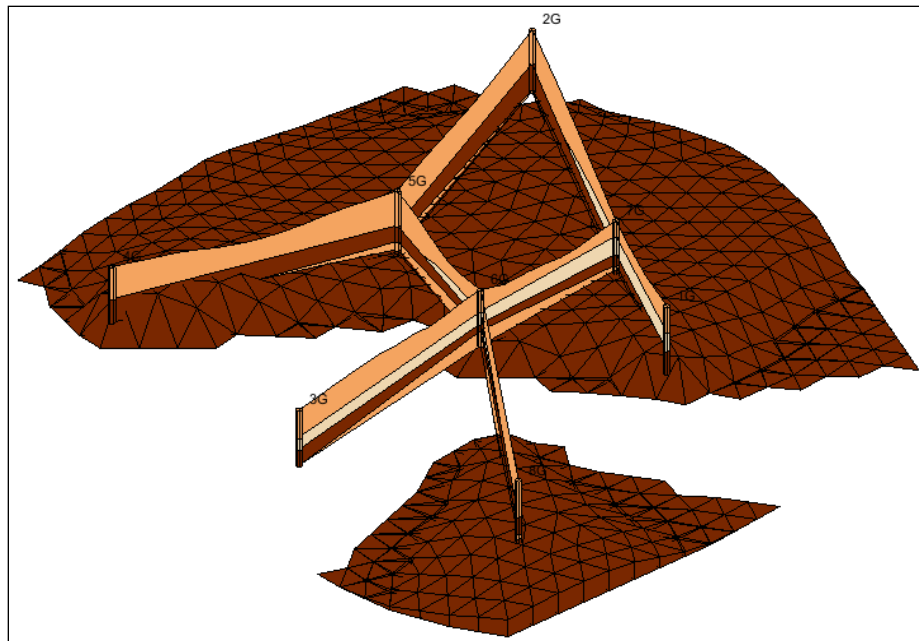

Figure 9 Silty_Clay 1 solid created with the conceptual model
2. In the “ solids (3)” folder, turn on the “ Silty_Clay 1” solid. Notice the area that it covers (Figure 9).